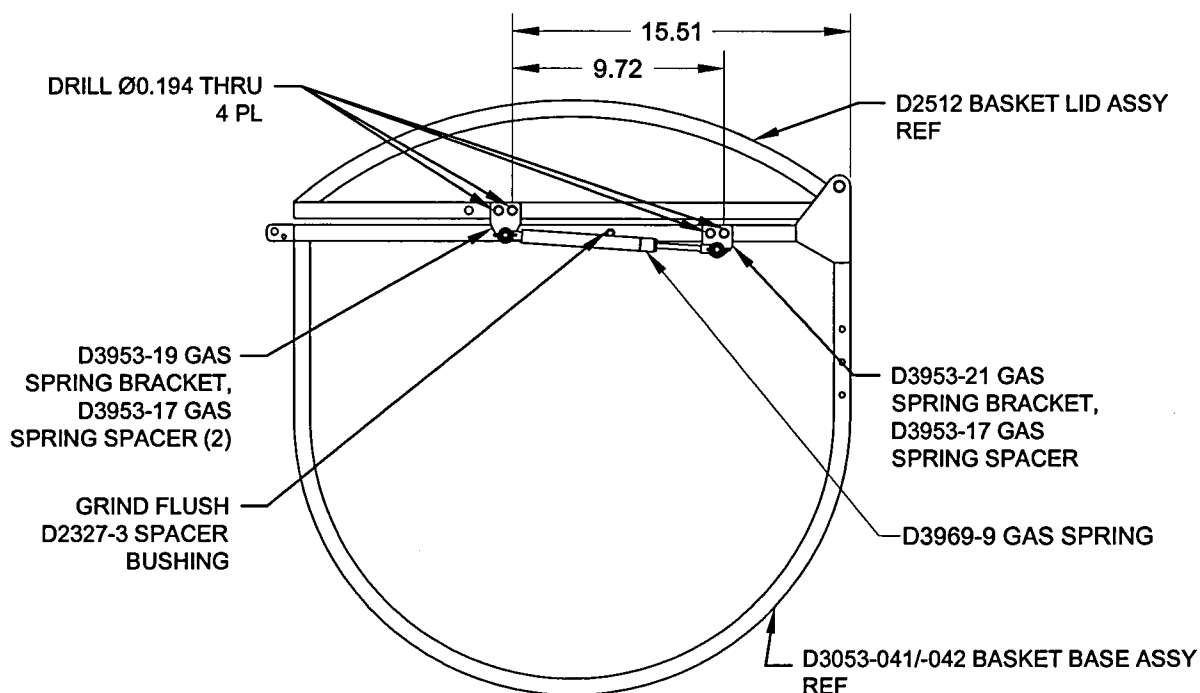
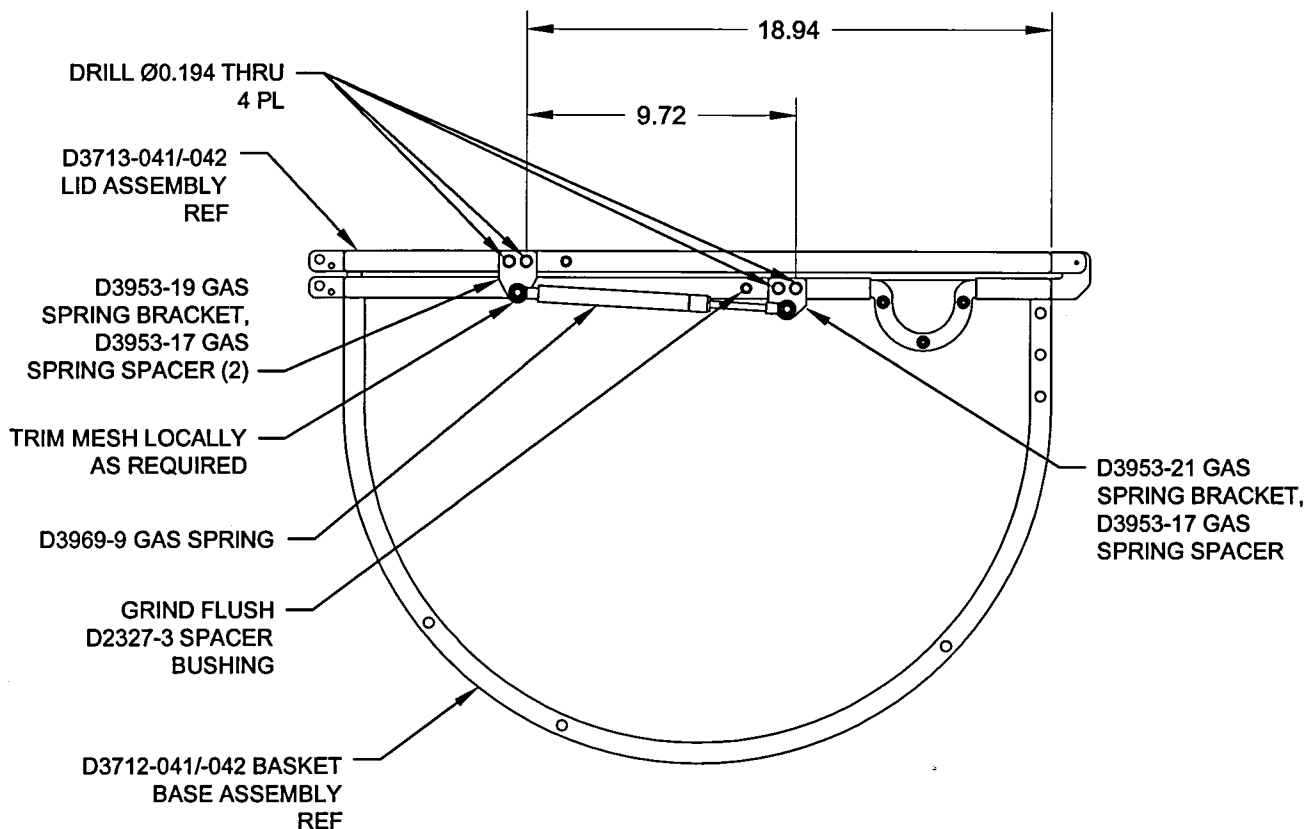

FIGURE 1: D205-541-051 AUTOMATIC LID OPENER INSTALLATION
FIGURE 2: D205-541-051 AUTOMATIC LID OPENER INSTALLATION
- 3.3 Locate the QTY 2 D3953-17 Gas Spring Spacer on the basket lid per Figure 1 (-043/-044) or Figure 2 (-045/-046). Trim steel mesh locally as required. Transfer mark and drill 2X Ø0.194 holes thru basket lid. Touch up paint per ICA-D205-541, Section 5.1.5. (Later model D2512 Basket Lids may be pre-drilled for gas spring brackets)
- 3.5 Locate the D3953-17 Gas Spring Spacer on the basket base as shown in Figure 1 (-043/-044) or Figure 2 (-045/-046). Trim steel mesh locally as required. Transfer mark and drill 2X Ø0.194 holes thru the basket base. Touch up paint per ICA-D205-541, Section 5.1.5.